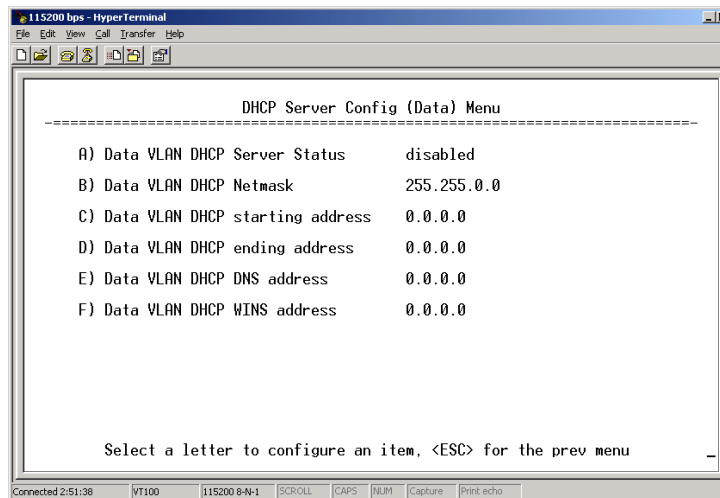

Figure 3-18. DHCP Server Configuration (Data) Menu
- **DHCP Server Config (Data)**—Presents a screen where you can view or set DHCP server status and address information for data functions (see Figure 3-18 on Page 52).